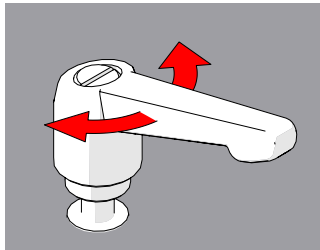

Fig. 62 - Rotate handle
2. Continue to pull while rotating the lever in the appropriate direction (*Fig. 62*).